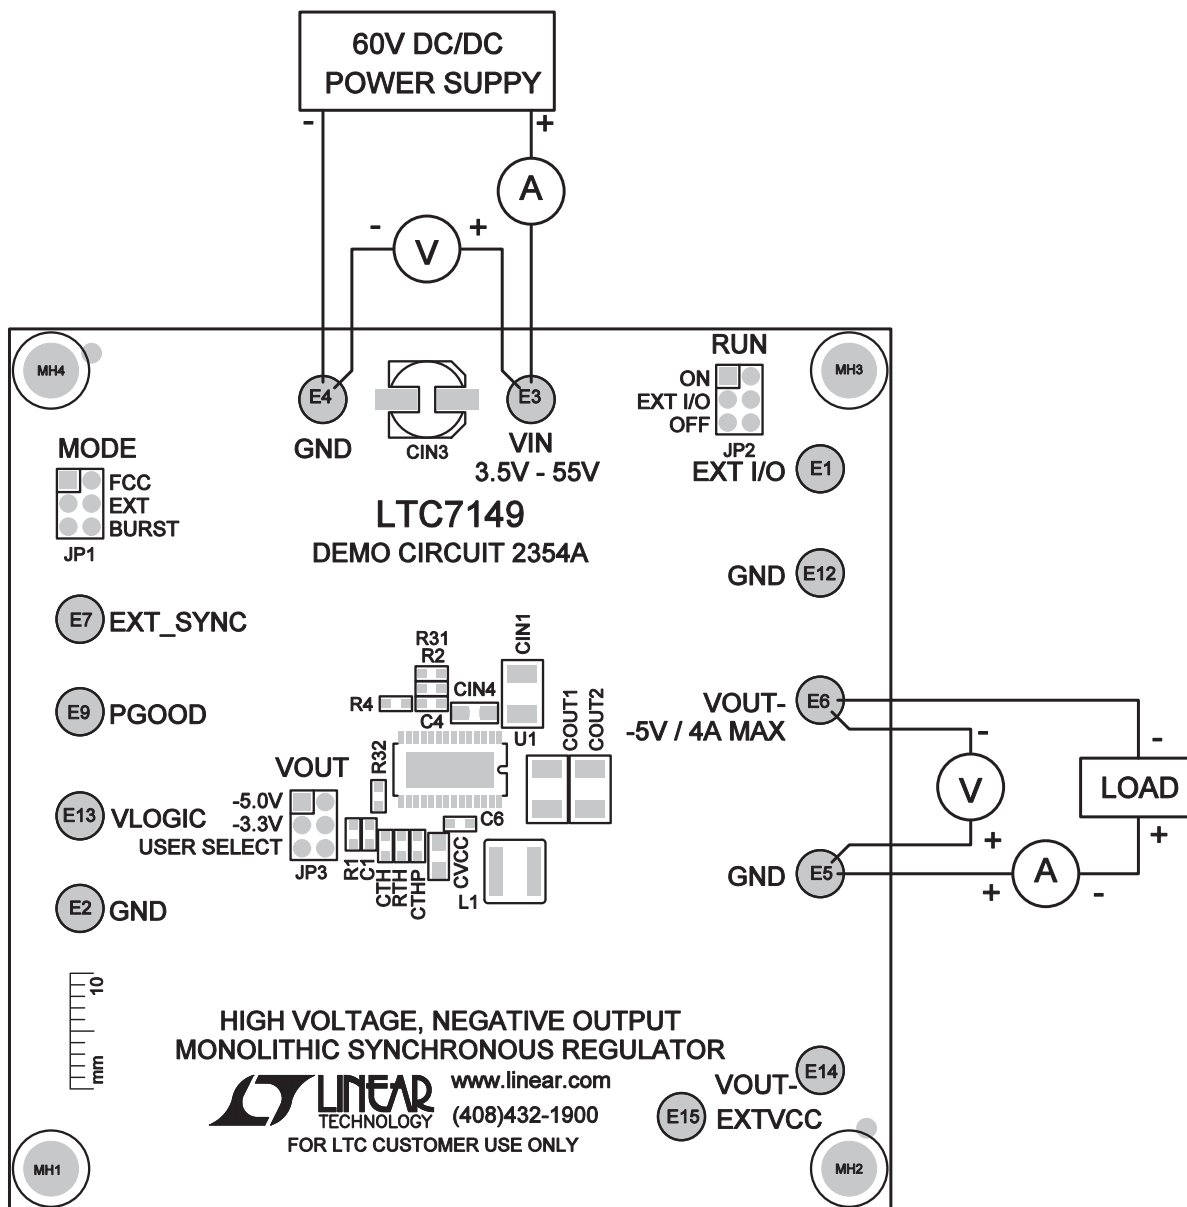

Figure 1. Proper Measurement Equipment Setup
Demonstration circuit 2354A is easy to set up to evaluate the performance of the LTC7149. For proper measurement equipment configuration, set up the circuit according to the diagram in Figure 1. Before proceeding to test, insert shunt into JP2 (RUN) into OFF position, which connects the RUN pin to ground (GND), and thus, shutdown the output. Set jumper JP1 (MODE) into FCC (Forced Countries Conduction Mode) position. Set jumper JP3 (V_{OUT^-}) into $-5.0V$ position.
1. With the DC2354A set up according to the proper measurement and equipment in Figure 1, apply 16V at V_{IN} . Measure V_{OUT^-} ; it should read 0V. If desired, one can measure the shutdown supply current at this point. The supply current will be approximately 14 μ A, or less, in shutdown.